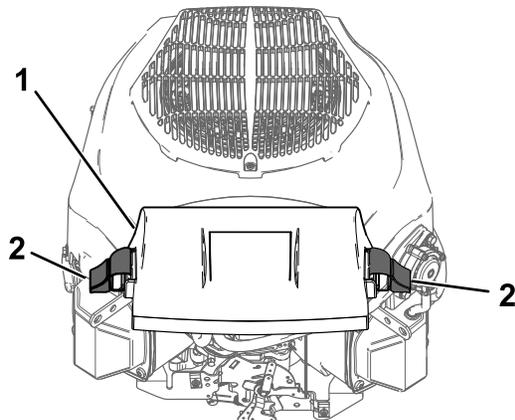

Figure 34
3. Install the cover and secure it with the retaining clamps (Figure 34).